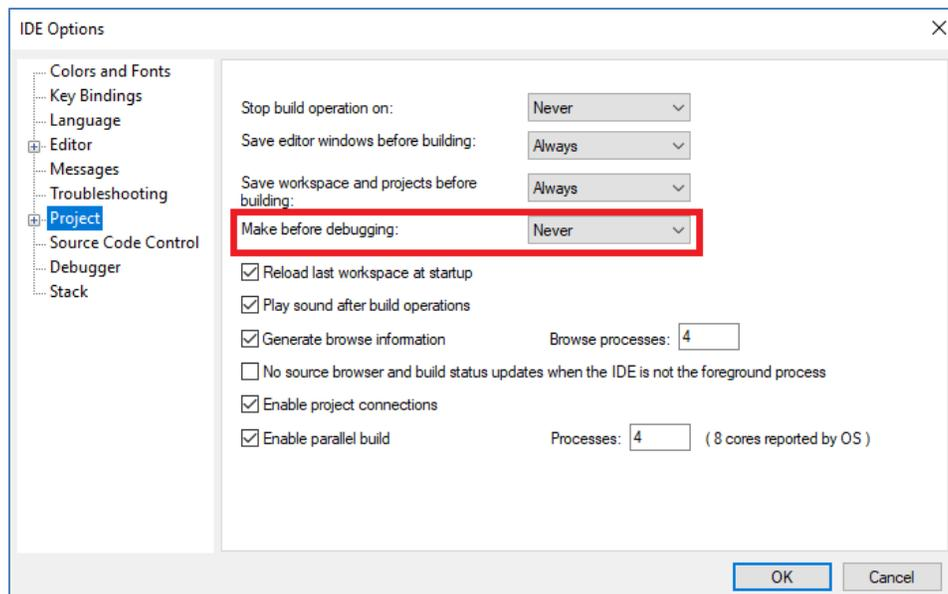

Fig 6-7 KM0 processor options
- (1) Open `project\realtek_amebaD_va0_example\EWARM-RELEASE\Project_Ip_release.eww`.
- (2) Make sure km0_bootloader and km0_application are in Workspace. Click **Project > Options, General Options > Target > Processor Variant > Core**, verify the CPU configurations according to Fig 6-7.